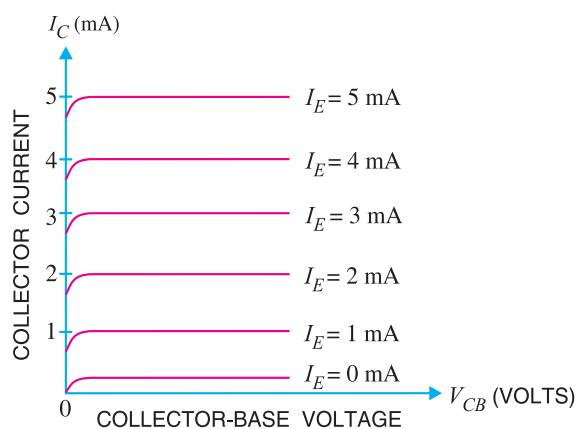

Fig. 8.15
**2. Output characteristic.** It is the curve between collector current  $I_C$  and collector-base voltage  $V_{CB}$  at \*constant emitter current  $I_E$ . Generally, collector current is taken along y-axis and collector-base voltage along x-axis. Fig. 8.15 shows the output characteristics of a typical transistor in CB arrangement.